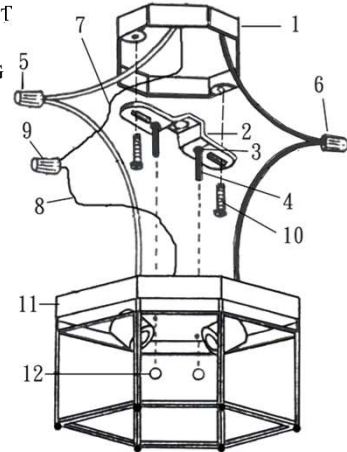

Fig.5
- B) If the fixture uses a single 1/8" IPS NIPPLE(4) for mounting, thread the 1/8" IPS HEX NUT(3) onto the NIPPLE, and screw the NIPPLE into the MOUNTING BRACKET(2), without tightening the HEX NUT(3).(Fig.5)
2. Pull the power supply wires out from the OUTLET BOX (1) and mount the MOUNTING BRACKET (2) or the universal mounting plate to the OUTLET BOX(1), using MOUNTING SCREWS(10).
3. Attach the power supply wire to the fixture lead wire by connecting BLACK to BLACK(6), and WHITE to WHITE(5). Connect the FIXTURE GROUND WIRE (8) to the SUPPLY GROUND WIRE(7) using a WIRE NUT(9)(not included).
4. Place the CANOPY(11) on the fixture over the OUTLET BOX(1) and onto the fixture mounting screws ( or NIPPLE ), and adjust the #8-32 fixture mounting screws (or NIPPLE) until they protrude out from the CANOPY(11) 1/4". Remove the CANOPY(11) and secure the position of the fixture mounting screw ( or NIPPLE ) by tightening the HEX NUT(S)(3) against the MOUNTING BRACKET(2). Place the CANOPY(11) back onto the fixture mounting screws,(or NIPPLE), and secure into place using the DECORATIVE NUT(12) provided.